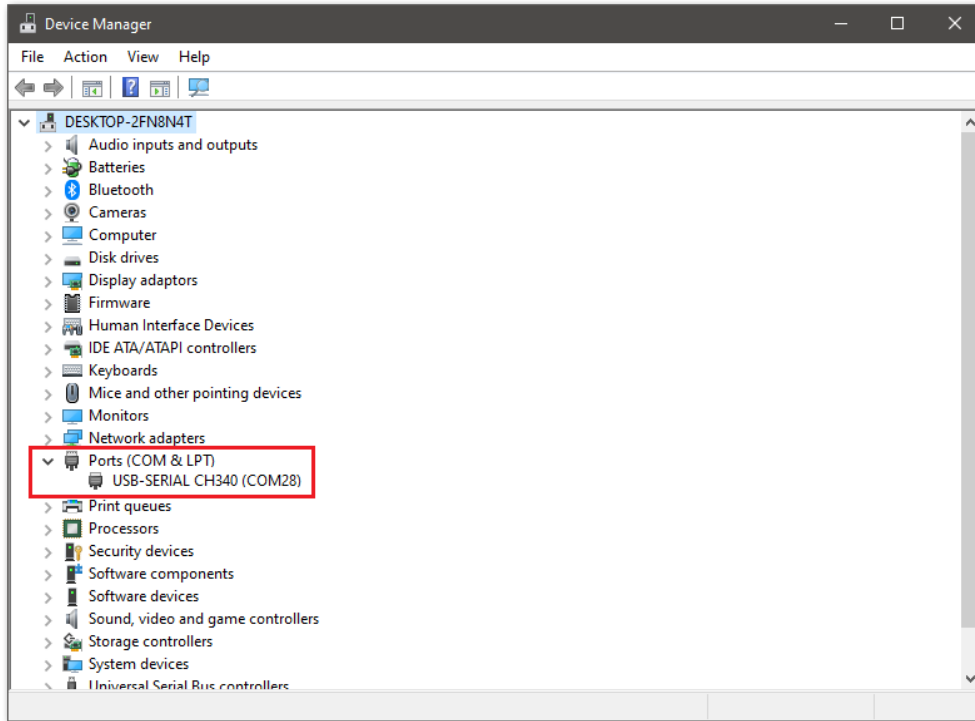

Figure 10: Device manager ports (COM & LPT)
3. Connect the RAK3172 via UART and check RAK3172 COM Port. See **Figure 10**.